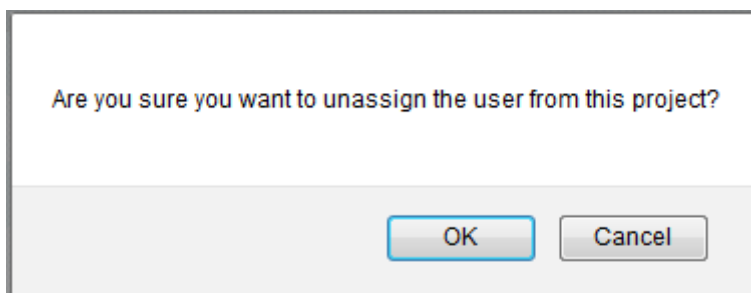

Figure 1.15
4. A pop up appears. (Figure 1.15) Click **OK** to revoke or click **Cancel**.